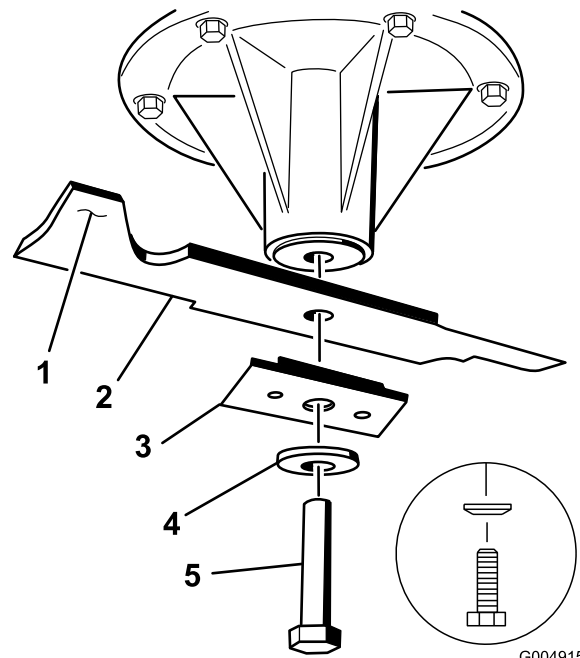

Figure 59
3. For 36 inch mower decks, remove the blade bolt, curved washer, blade stiffener, and blade from the spindle shaft (Figure 59).
3. For 36 inch mower decks, install the blade, stiffener, curved washer, and blade bolt (Figure 59).